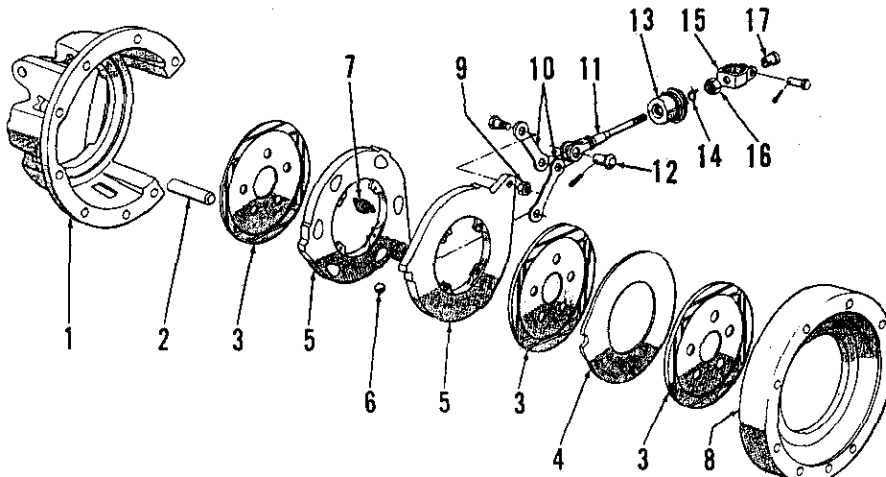

Fig. 347—Exploded view of model 4000 brake assembly. Brake inner housing (1) is same as (21—Fig. 330) and outer housing (8) is same as (19—Fig. 330).
and fork from housing. Remove the stud nuts retaining brake inner housing (21—Fig. 330) and remove the inner housing, brake assembly (20) and brake outer housing (19). Note: Refer to Fig. 347 for exploded view of model 4000 brake assembly. Lift out the final drive sun gear (18—Fig. 330) and the locking plate (16). On model 4000, it may be necessary to turn axle housing to align planetary (see Fig. 341) so that lock plate can be removed. Remove the cap screw (15—Fig. 330) retaining final drive planetary (12) to axle shaft and remove the retainer (14), spacer shim (13) and planetary assembly. Drive axle shaft seal (2) from outer end of axle housing and lift housing from
Refer to Fig. 347 and proceed as follows: Unbolt and remove inner disc brake housing assembly from inner end of axle housing. Remove brake control rod fastener and, if damaged, remove brake rod seal. To remove seal, place a sharp tool between seal flange and housing and pry seal out. Remove the brake disc assemblies, intermediate discs, the actuating disc assembly and the outer brake housing.
Fig. 347 for reassembly of brakes. After inner brake housing is installed, tighten the retaining nuts to a torque of 72-90 Ft.-Lbs.